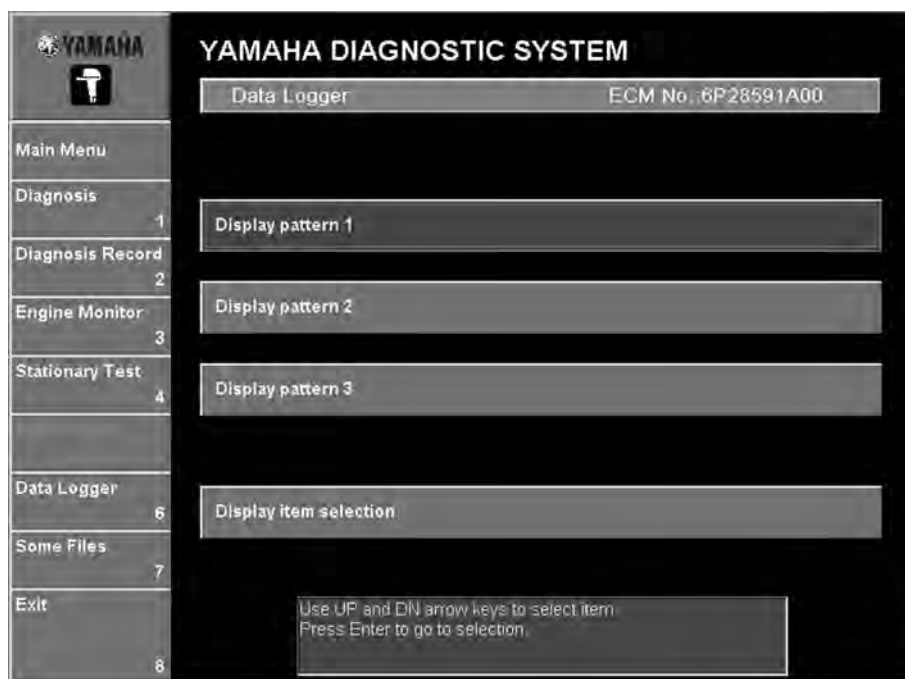

Fig. 115
3. Select the display pattern by either clicking the **Display pattern 1**, **Display pattern 2**, or **Display pattern 3** button or pressing the up or down arrow key on your keyboard and pressing the Enter key. (Fig. 115)